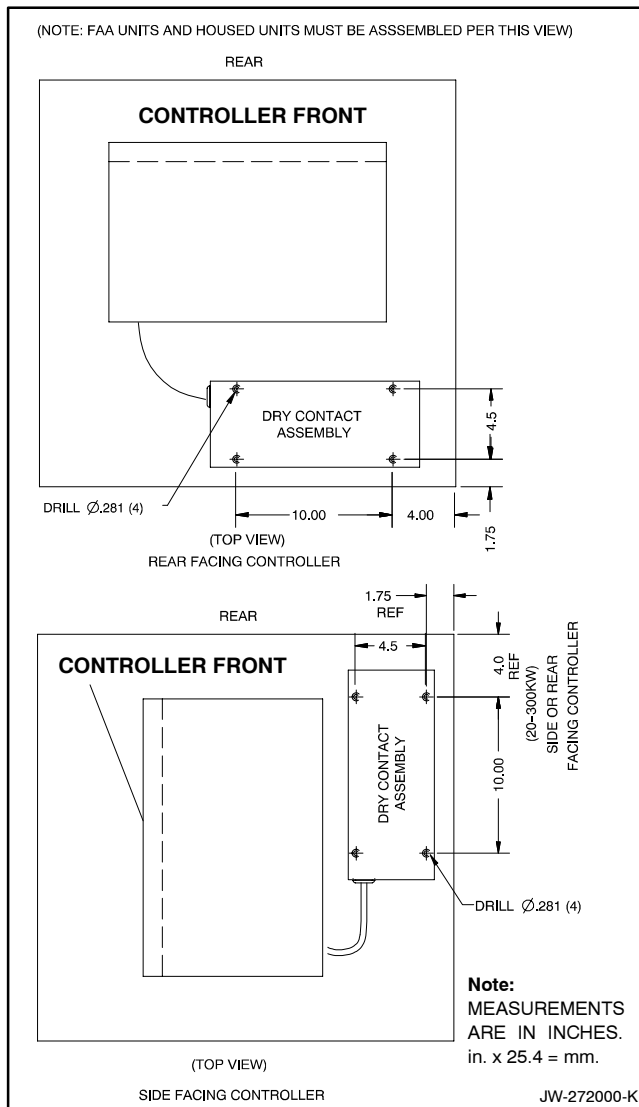

Figure 7 Junction Box Drilling Information (20-300 kW)
- 5.1.1 Drill four 7.1 mm (0.281 in.) diameter holes in the junction box as shown in Figure 7. The ten-relay dry contact kit mounts behind the controller.
- 5.1.4 Mount the ten-relay dry contact box (A-273936) to the junction box using four screws (X-465-7), spacers (X-400-28), and nuts (X-6210-2). See Figure 7 for the mounting position.